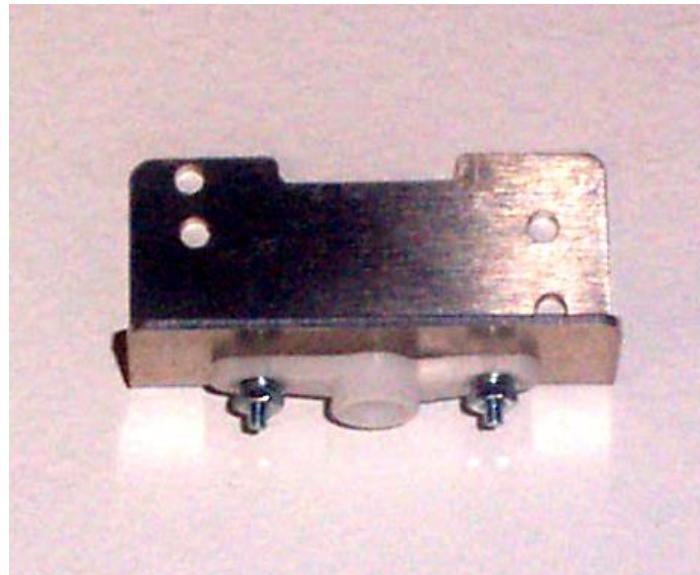

Figure 59: Sweeping Scanner Servo Bracket
1. Insert a #2 x 5/16" long screw through the top of the bracket. Fasten the servo arm on with a washer, lock washer and nut as shown in Figure 59.